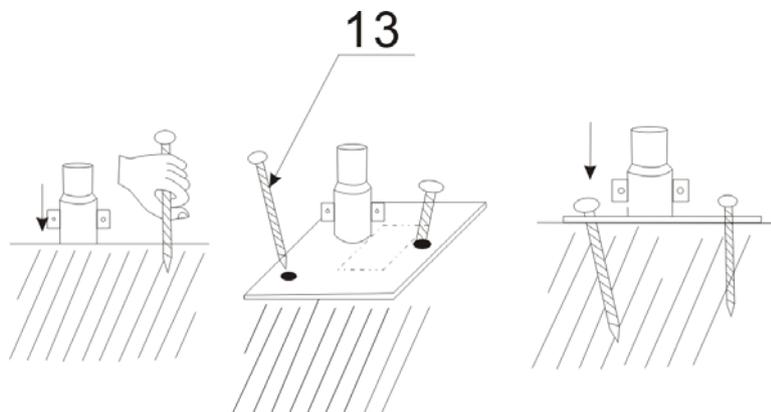

Figure 3
2. There are two holes on the plates for stake pegs. Refer to Figure 3 to place the stake pegs into the ground, THUS ALL BASE PLATES ARE SECURED.
As Figure 3 shows each Base Plate (No.6, 7) is equipped with 2 pieces of Stake Pegs (No.13)